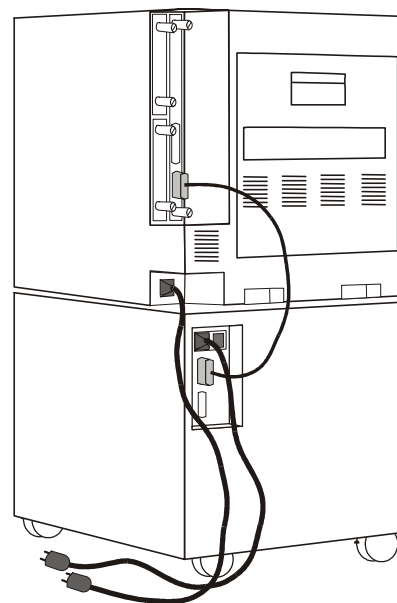

Fig. 10 Connecting the Cables
- Connect TowerFeed and printer with the C-Link cable (Fig. 10) - one end to the printer port (ACCESSORY) and the other end to the upper TowerFeed connector (••). The lower TowerFeed connector (•) allows to connect to further paper handling options (e.g. HP Multi-Bin Mailbox).
- Connect the power cables to printer and TowerFeed (Fig. 10).